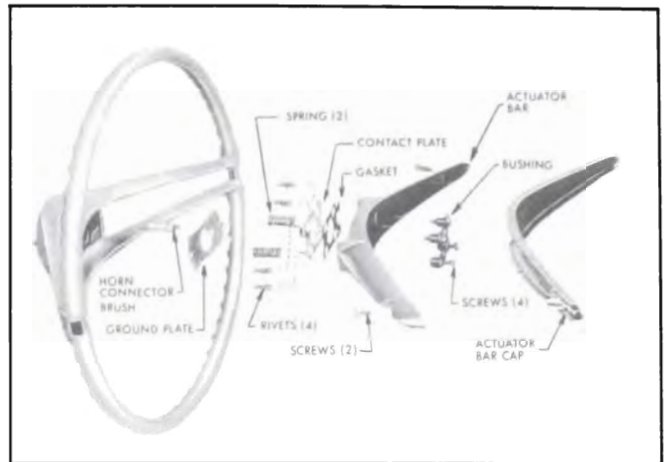

Figure 8-9—Deluxe Steering Wheel
2. On deluxe steering wheels, remove the actuator cap, actuator bar, springs and ground plate from wheel. See Figure 8-9.